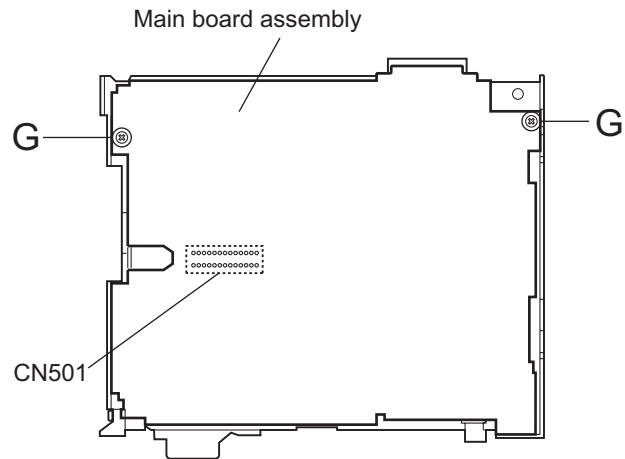

Fig.8
2.1.6 Removing the main board (See Fig.8)